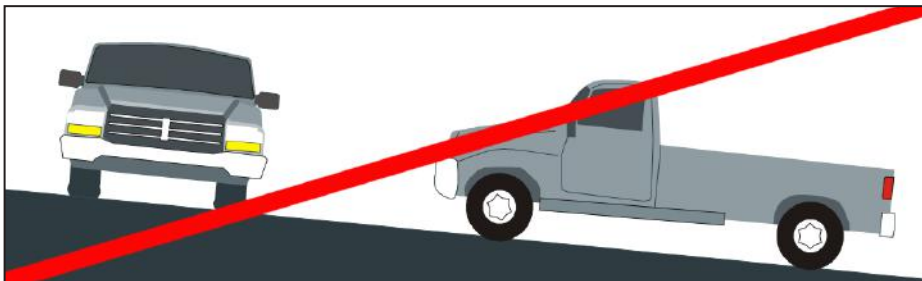

Figure 12 — Do not exceed 20° grade
- Ensure the vehicle the system is mounted to is not parked on grades exceeding 20° as this will affect lubrication and air/oil separation (Figure 12).